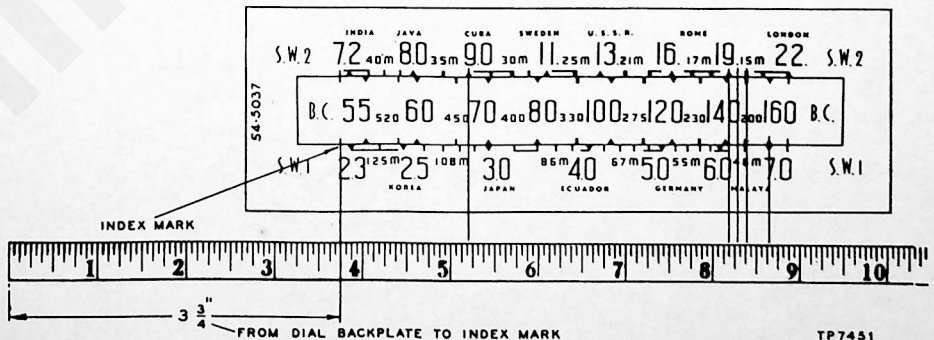

Figure 2. Dial-Calibration Measurements
**DIAL POINTER**—With the tuning condenser fully meshed, set the pointer to coincide with the index mark at the low-frequency end of the dial, to the left of "55". See figure 2.